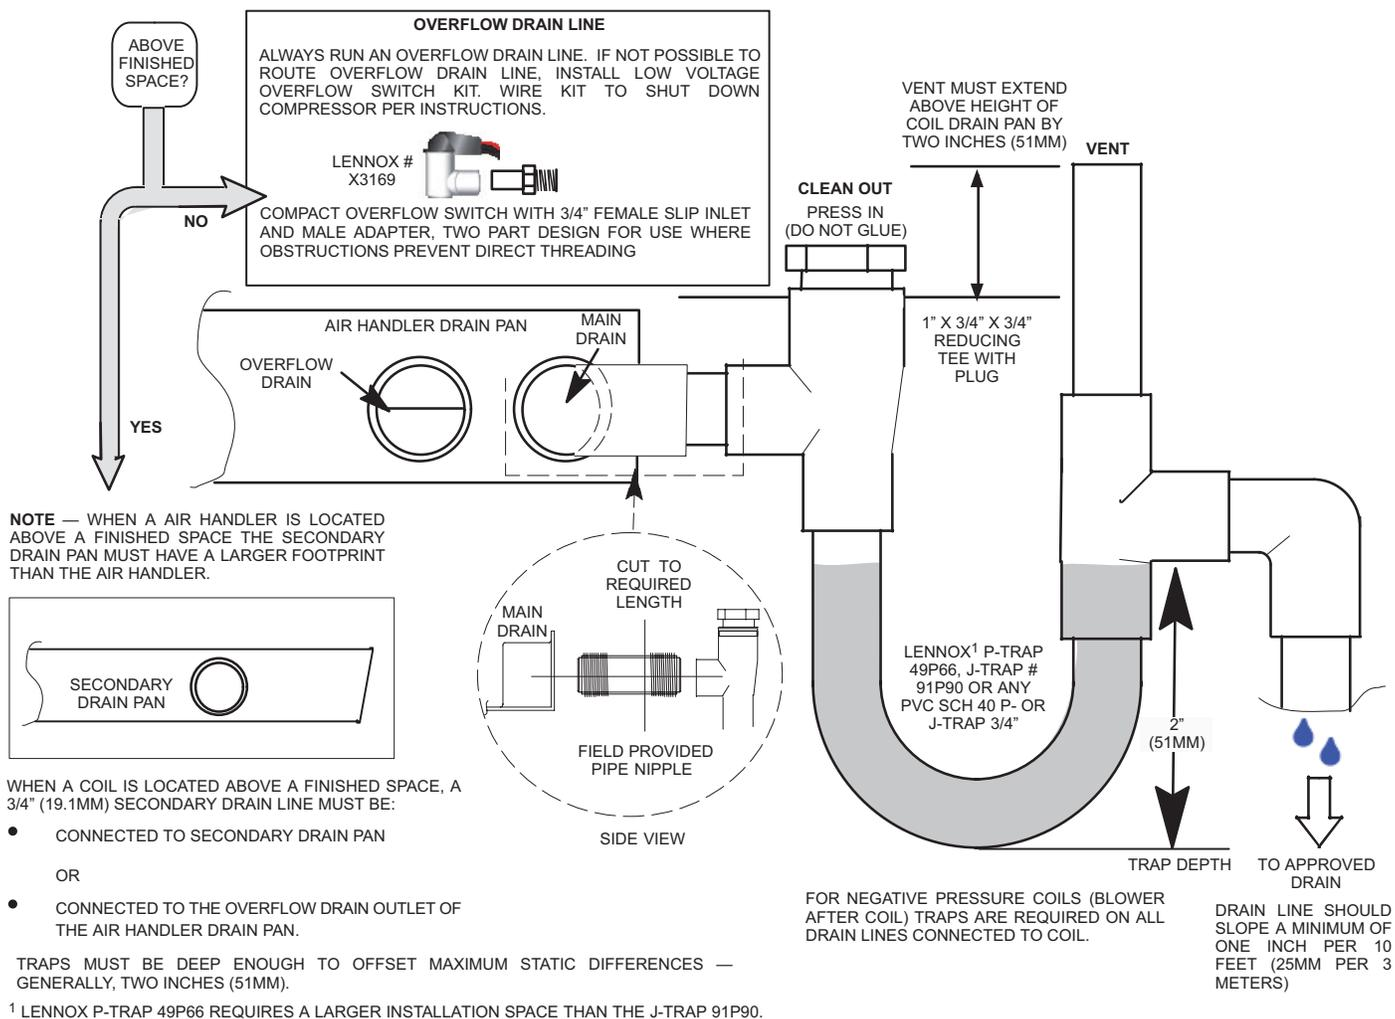

Figure 2. Typical Main and Overflow Drain
6. Install a 2" trap in the main (primary) drain lines as close to the unit as practical ("Figure 2. Typical Main and Overflow Drain"). Make sure the top of the trap is below the connection to the drain pan to allow complete drainage of the pan.
**NOTE** - Horizontal runs must have an anti-siphon air vent (standpipe) installed ahead of the horizontal run. See "Figure 2. Typical Main and Overflow Drain". An extremely long horizontal run may require an oversized drain line to eliminate air traps.